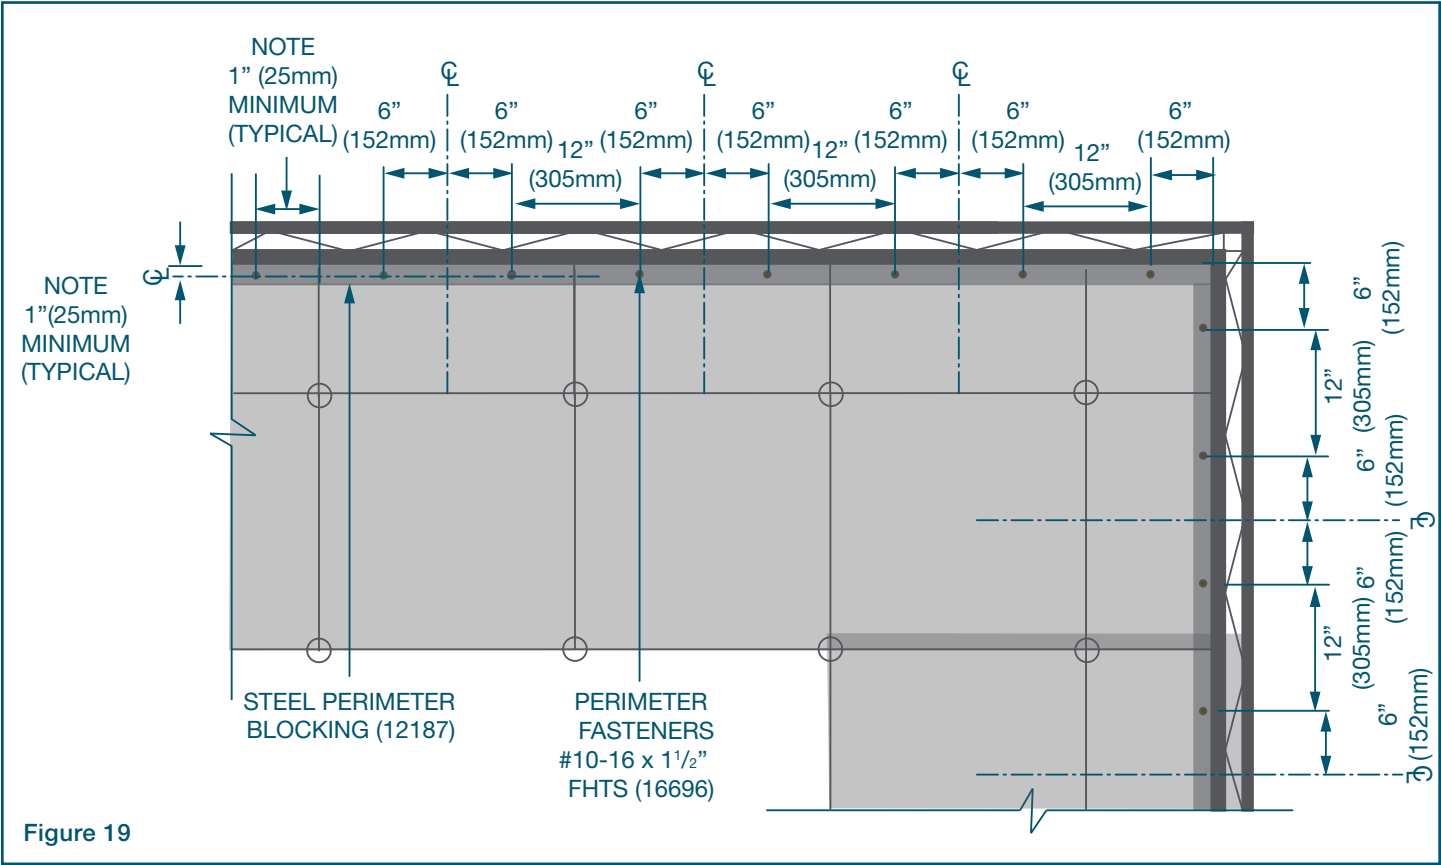

Figure 19
- 20** Drill and screw the perimeter floor panels into the perimeter blocking. Figure 19 shows perimeter fastener spacing for both non-seismic and seismic conditions.